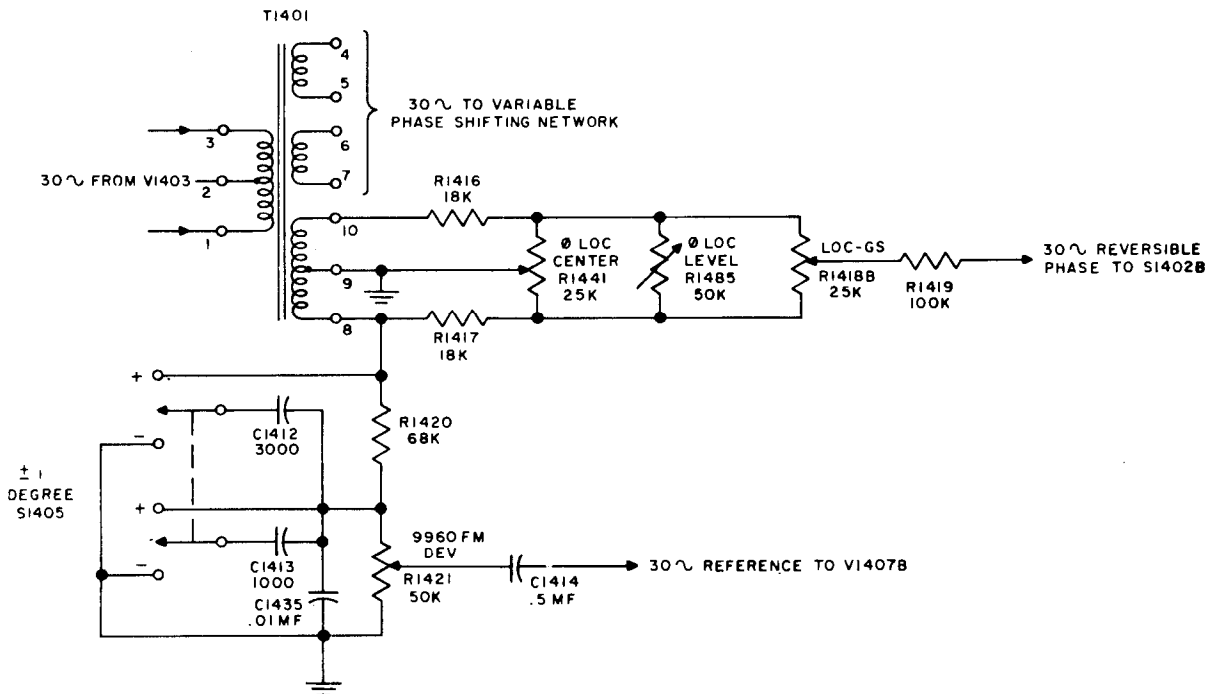

Figure 4-22. Reversible Phase Shifting Network, Simplified Schematic
(See figure 4-22.)
a. VOR. 9960 cps frequency modulated at 30 cps from V1407A is fed to S1402A rear and 30 cps variable phase from V1401A is coupled through R1444 to S1402B. Switch section S1402E (figure 4-22) disables the 90 cps and 150 cps circuit.